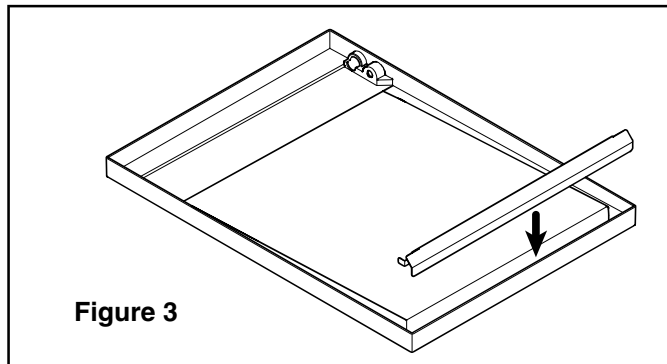

Figure 3
- d. Place U-channel into drain pan. See Figure 3.